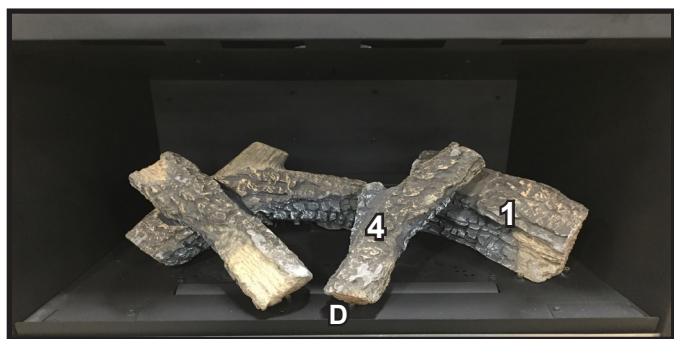

Figure 6 Log #4 Installed
**LOG #4:** With the nub facing the back of the firebox, place the center of the end of log #4 against pin D. Place the other end of the log on the flat spot of log #1. See Figure 6.